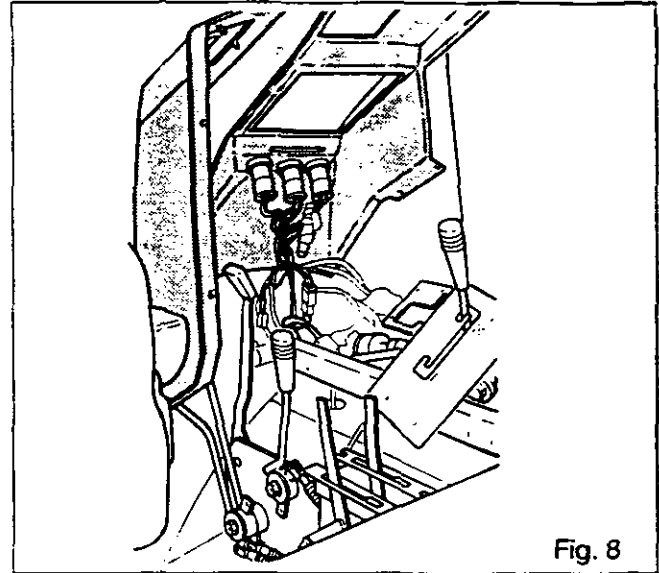

Fig. 8
19. Remove the screws, lift up and push the two consoles forward (Fig. 8), taking care not to disconnect the harnesses.